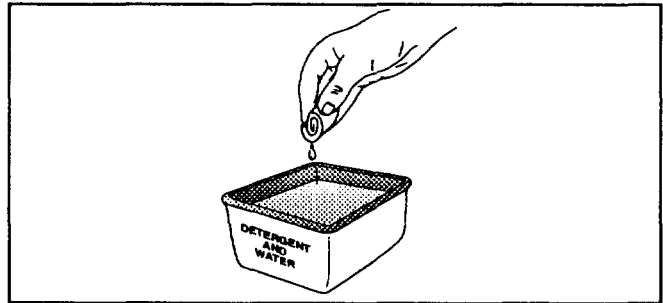

Fig. 22
4. Wash the filter in liquid detergent and water (Fig. 22). Rinse the filter thoroughly and carefully squeeze out excess water. Allow filter to dry.